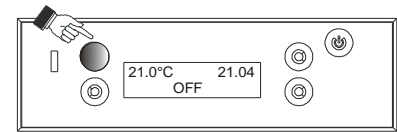

Figure 14 – "Cleaning" function
- **Activate the "CLEANING" function** – when the stove is off, press the key in the control panel highlighted in figure 14 for 2 seconds. This procedure activates the smoke suction fan at maximum power in order to expel the soot which is moved around whilst cleaning the exchanger.
- **Deactivate the "CLEANING" function** by pressing the control panel key highlighted in figure 14 once again.